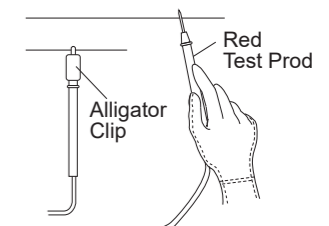

Fig.5
- Read the voltage on LCD. Refer to the Fig. 5